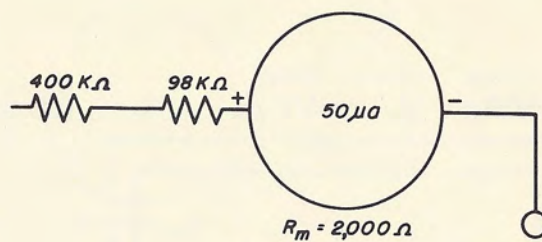

Fig. 11-3
Step 6. Add the multiplier you chose in Step 5 to your schematic drawing. Your drawing should now look like Fig. 11-3.
Step 7. Calculate the value of the multiplier required to enable the meter shown in Fig. 11-3 to read 100 volts d.c. Once more, the procedure is the same as that described in Steps 3 and 4. Read no further until you have completed your calculation.